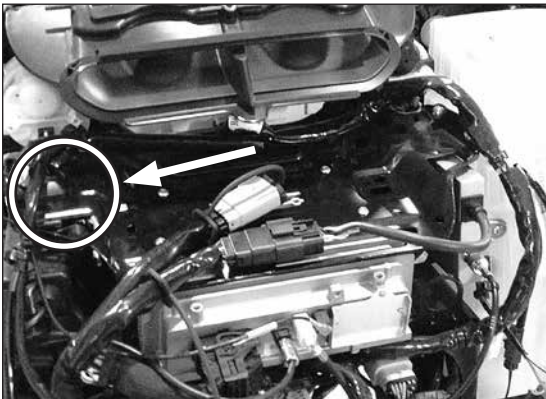

Figure 1.1 - The white circle shows the new location for GPS Antenna if your bike came factory equipped with this feature.
- Step #3: Over top of the radio, pull up to release each wire harness from the black plate via the factory "Christmas Tree" fasteners. If your bike has factory GPS, the small square antenna will need to be relocated just behind the voltmeter as shown in Fig 1.1 below. Remove the 4 factory "Torx" screws that go through the top of the black plate and into the top of the radio. Set these screws aside for now.